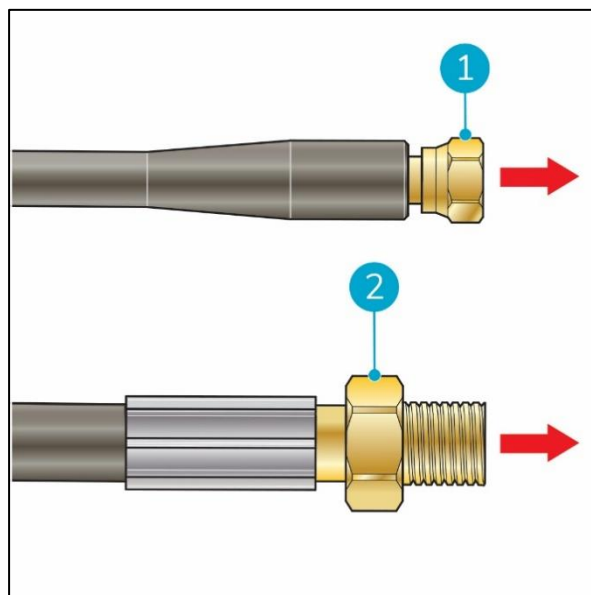

Figure 8
One end of the hose has a rubber cover (Figure 8, pos 1) for connecting to the power handle.
The other end of the hose, without the rubber cover (Figure 8, pos 2), should go through the carbon tube.